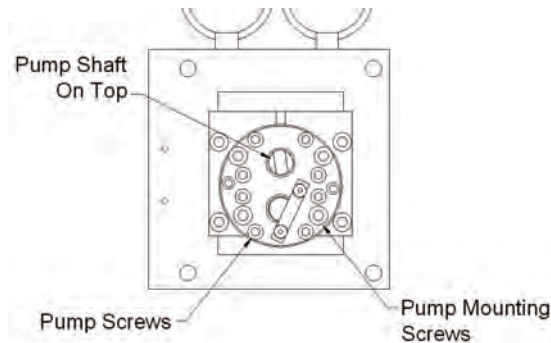

Figure 4.M.8.7-1 Flow Match Valve Face
3. Align the flow match valve to the manifold as shown in Figure 4.M.8.4. The gauges are on the top side along with the corner cutouts of the flow match valve. Apply blue Loctite® on the flow match screws and install the 4 lock washers. Torque the 4 screws in place to 100 lb-in.
4. Align the pump to the flow match valve as shown Figure 4.M.8.7. Note the location of the pump driven shaft. Apply blue Loctite® on the pump screws and install the four lock washers. Torque the screws in place to 100 lb-in.